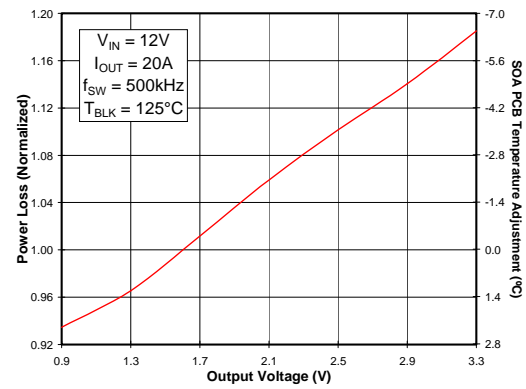

Fig 4. Normalized Power Loss vs. V_{OUT}
- (Fig. 4) Normalized power loss for output voltage ≈ 1.1
- (Fig. 4) Normalized SOA PCB Temperature for output voltage $\approx -3.5^\circ\text{C}$